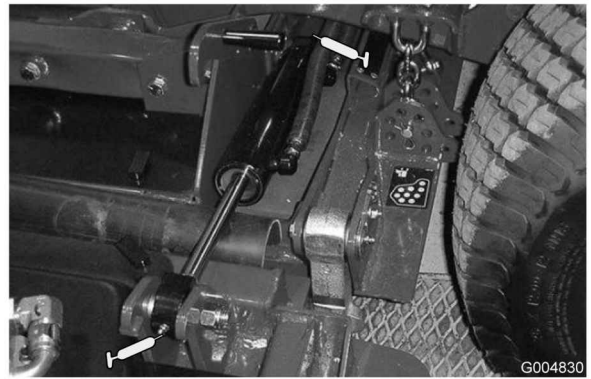

Figure 45
Wing lift cylinder (4) (Figure 45)